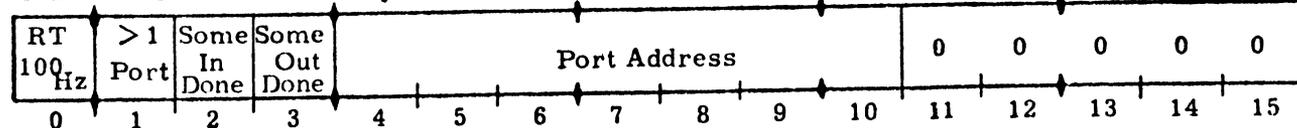

Figure 2 - EDS-8 Control Words
Within each control block, 6 words are used for Mux control, namely words 0, 1, 4, 5, 6, and 7; the remainder may be used for any other purpose. The three even-numbered words control input, the odd-numbered ones control output. In each set of three, two words are pointers to the beginning and end of the desired buffer areas in core. The sizes and locations of these buffers are therefore entirely under software control. Several ports may transmit from the same buffer area at one time, since each keeps track of its own pointers. If the port is operated in single-character mode, the pointer words are not read by the Mux and may be used for any other purpose. The meanings and formats of the six control words are shown in Figure 2 and explained in Section 4.
4. Definition of Control Words (see Figure 2)